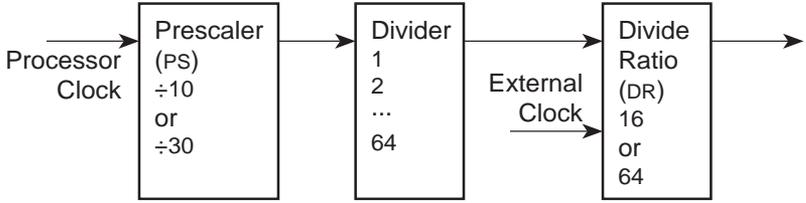

Figure 5-7. Z180 Baud-Rate Generator
The prescaler (PS), the divide ratio (DR), and the SS bits form a baud-rate generator, as shown in Figure 5-7.